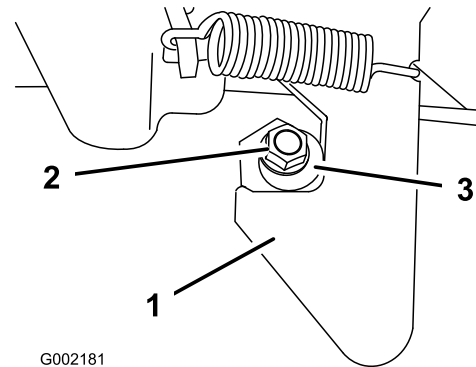

Figure 25
1. Loosen the nut on the end of the latch post (Figure 25).
2. Turn the latch post clockwise until it is snug against the latch and then tighten the nut (Figure 25).